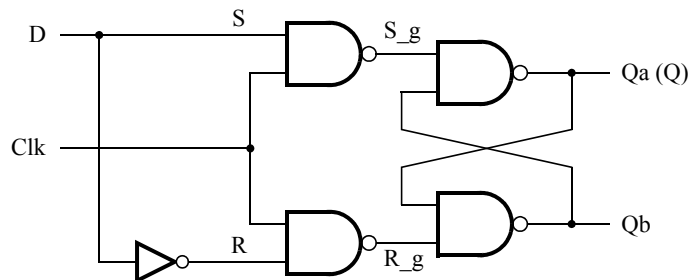
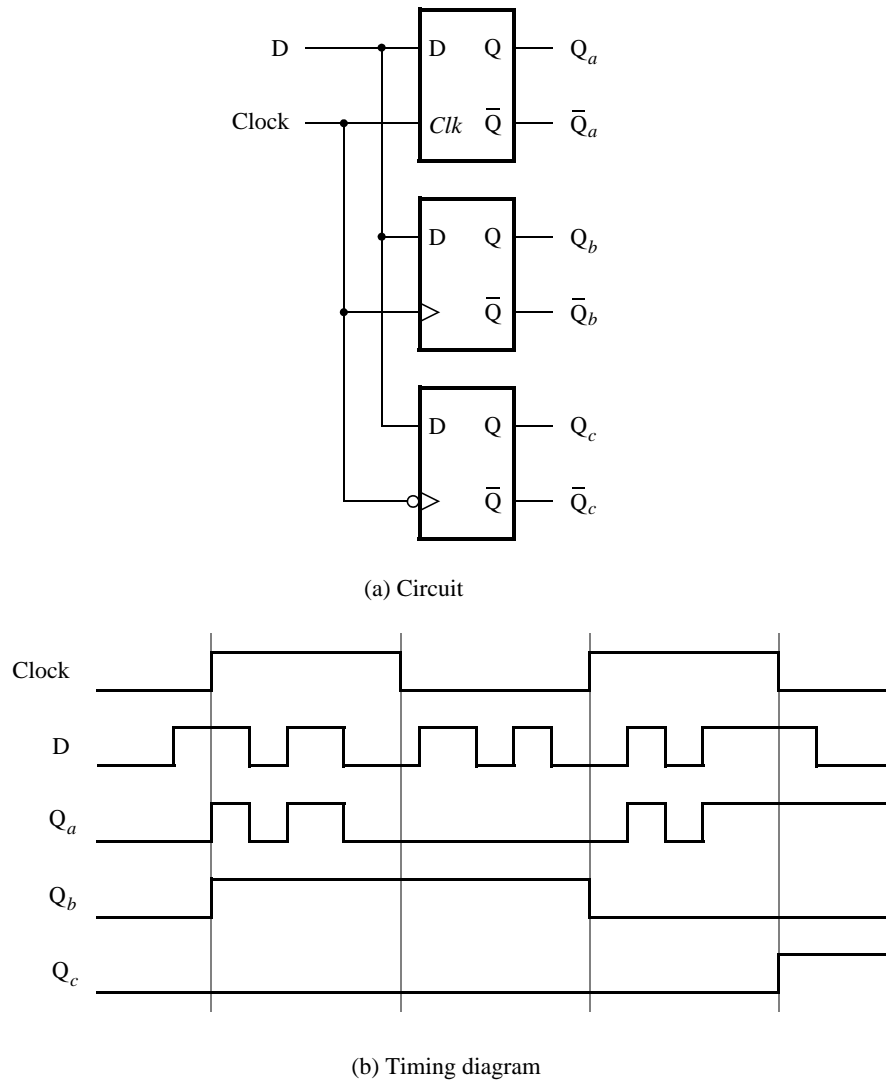

Figure 5: Circuit for a gated D latch.
Figure 7: Circuit and waveforms for Part IV.
Figure 5 shows the circuit for a gated D latch.
Figure 7 shows a circuit with three different storage elements: a gated D latch, a positive-edge triggered D flip-flop, and a negative-edge triggered D flip-flop.
2. Write a VHDL file that instantiates the three storage elements. For this part you should no longer use the KEEP directive (that is, the VHDL ATTRIBUTE statement) from Parts I to III. Figure 8 gives a behavioral style of VHDL code that specifies the gated D latch in Figure 5. This latch can be implemented in one 4-input lookup table. Use a similar style of code to specify the flip-flops in Figure 7.
4. Use Modelsim to simulate the circuit you created. Use the included testbench file to specify the inputs  $D$  and  $Clock$  as indicated in Figure 7. Make sure that the testbench correctly instantiates the module you created and run the simulation to observe the different behavior of the three storage elements.